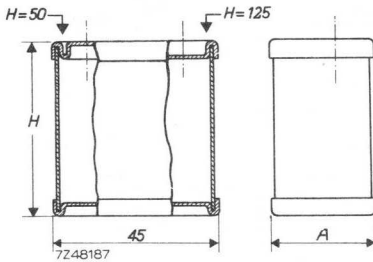

Fig. 1
* 7.5 mm when A (Fig. 1) = 15 mm